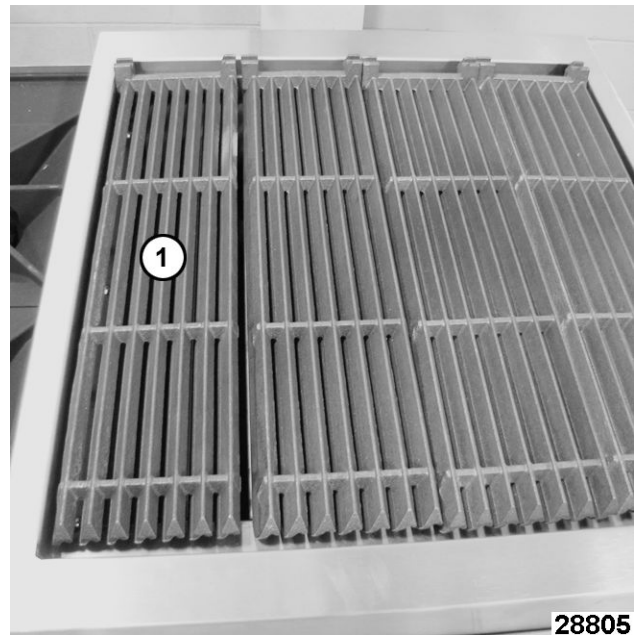

Fig. 69
2. Remove grate (1, Fig. 69) from charbroiler.